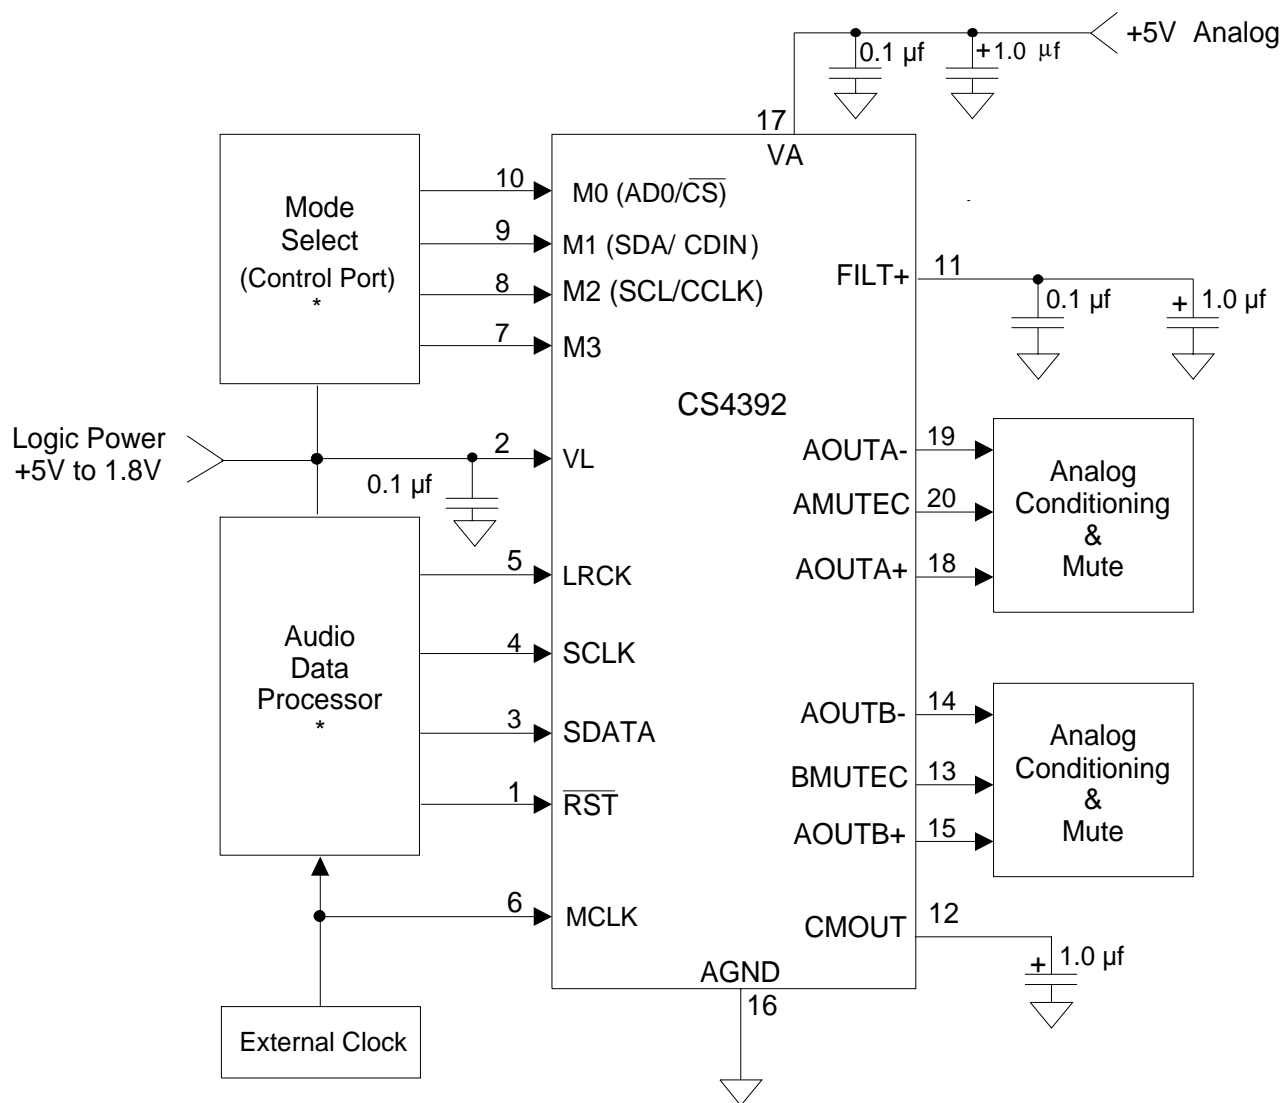

Figure 5. Typical Connection Diagram - PCM Mode
7. Valid with the recommended capacitor values on FILT+ as shown in Figure 5. Increasing the capacitance will also increase the PSRR. NOTE: Care should be taken when selecting capacitor type, as any leakage current in excess of 1.0 μA will cause degradation in analog performance.